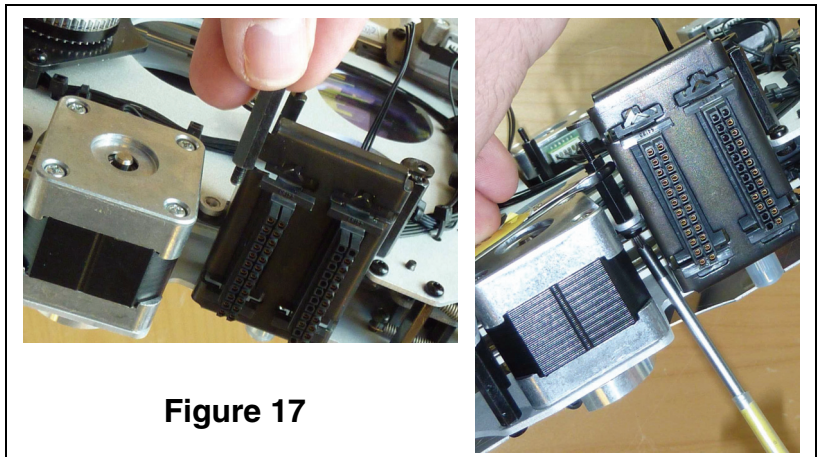

Figure 17
20. See Figure 17. The M3 x 30 pillar bolt next to the multi-connector is held in place with a 5.5 mm nut. Remove the pillar bolt and nut completely and replace with an M3 x 20 pillar bolt, fastening the pillar bolt with the M3 x 6 panhead Torx 10 screw (P/N 08050702) supplied in the kit.